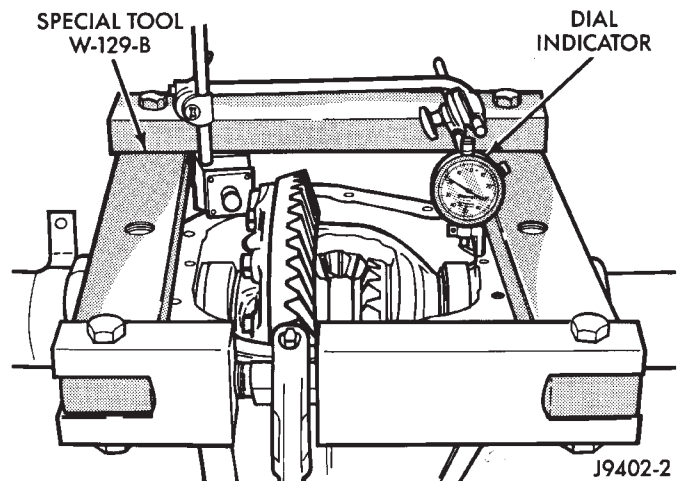
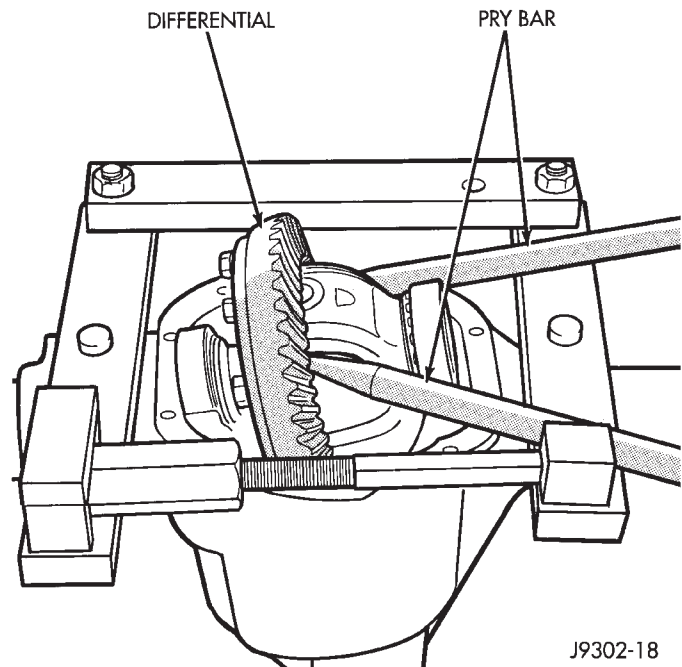

Fig. 11 Spread Differential Housing
Fig. 12 Differential Removal
(2) Remove the differential bearing caps.
(3) Position Spreader W-129-B with the tool dowel pins seated in the locating holes (Fig. 11). Install the holddown clamps and tighten the tool turnbuckle finger-tight.
(4) Install a pilot stud at the left side of the differential housing. Attach Dial Indicator to housing pilot stud. Load the indicator plunger against the opposite side of the housing (Fig. 11) and zero the indicator.
(5) Separate the housing enough to remove the case from the housing. Measure the distance with the dial indicator (Fig. 11).
(6) Remove the dial indicator.
(7) Pry the differential case loose from the housing. To prevent damage, pivot on housing with the end of the pry bar against spreader (Fig. 12).